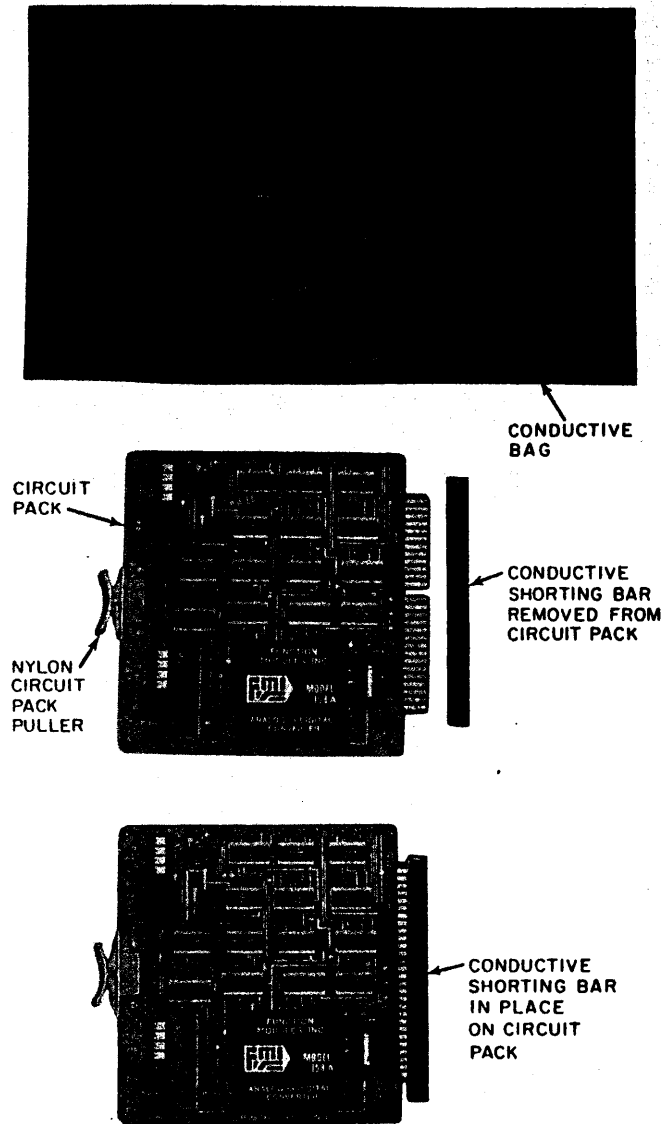

Fig. 12—Circuit Pack With Shipping Components
***WHEN THE KR6 CIRCUIT PACK IS REMOVED FROM THE 150A RCTS, ALWAYS PLACE THE BLACK SHORTING BAR (Fig. 12) OVER THE TERMINALS (FINGERS). PLACE THE CIRCUIT PACK IN A BLACK CONDUCTIVE COVER (Fig. 12).*** The KR6 circuit pack is shipped in a conductive cover and has a shorting bar in place. The cover and shorting bar from the replacement circuit board may be used when returning a defective KR6 circuit pack.